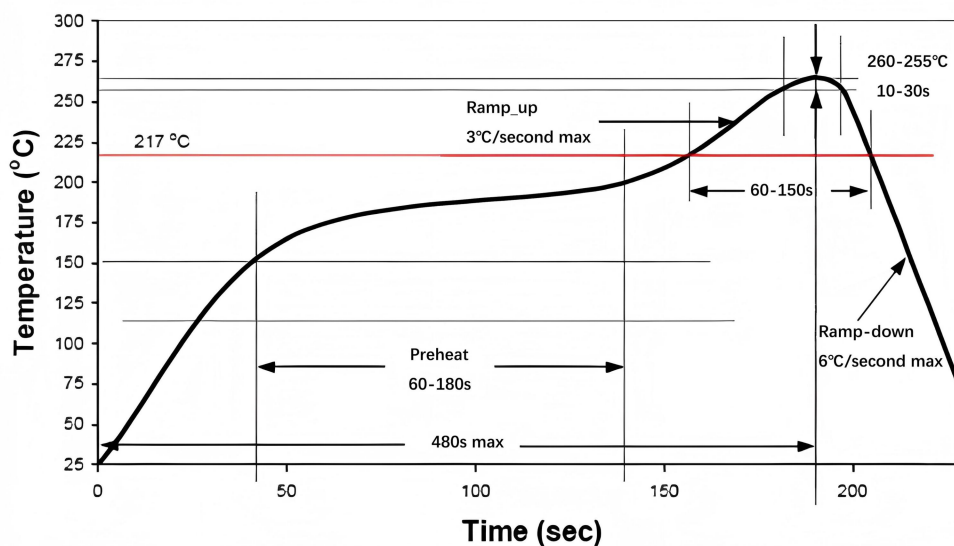

Fig.5 Reflow soldering temperature setting conditions
- The recommended wave oven temperature setting conditions are shown in Figure 5.